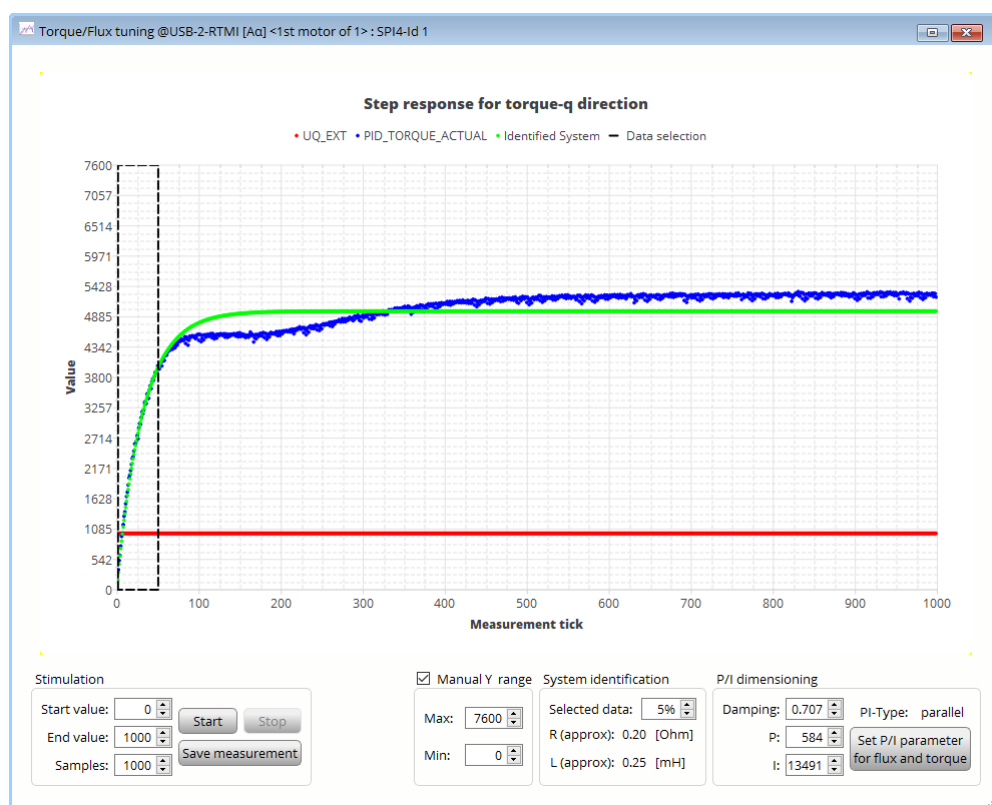

Figure 11: Step response: identification area too small
- In figure 11 the step response is not fully covered. Identification area is too small.